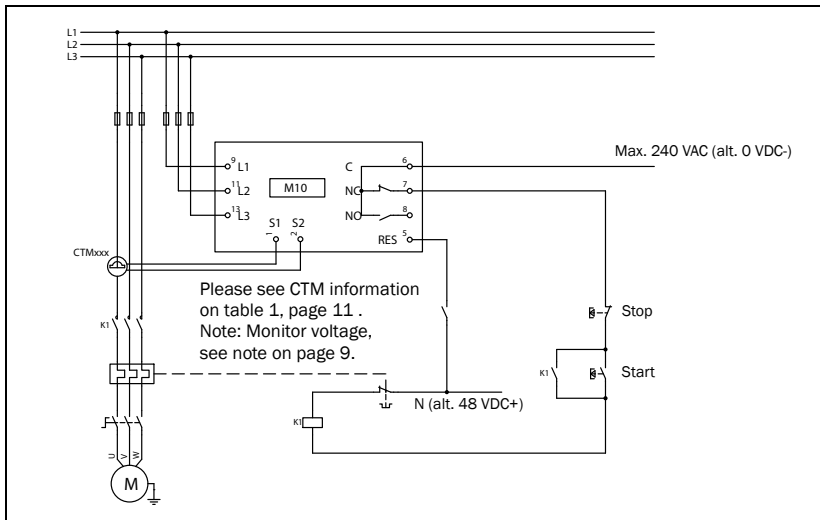

Fig. 1 Standard wiring 3-phase motors (alternatively see Fig. 11, page 30)
1. Connect the Emotron M10 according to Chapter 5 and Fig. 1.
The following wiring diagram provides an example of how the Emotron M10 can be connected to control the start/stop circuit of a three-phase motor, Fig. 1, page 8. Connections to a single-phase motor are described later in this manual (Fig. 2).
1. The current transformer CTMXXX must be placed in the same phase that is connected to terminal 9, phase L1, see Fig. 1. Failure to follow this requirement will result in the monitor failing to function.
When using DC voltage, terminal 6 should be connected to negative polarity (ground) and terminal 5 to positive polarity (max. 48 VDC), see Fig. 1, page 8. See also the alternative auxiliary circuit Fig. 11, page 30.